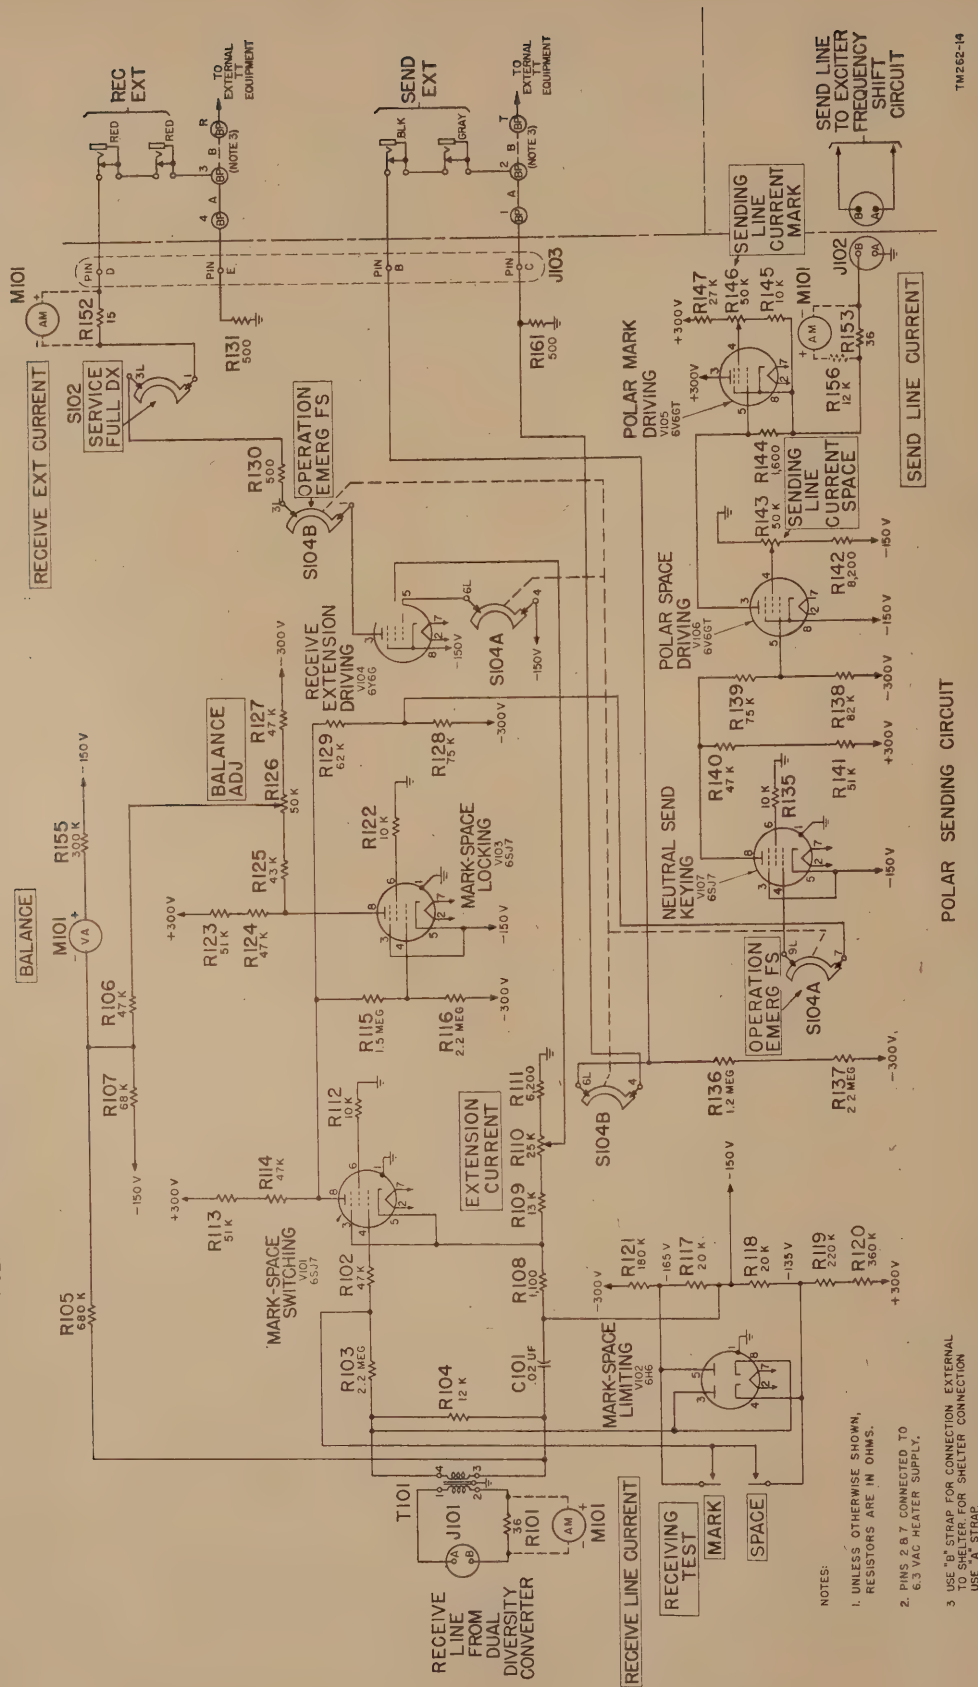

Figure 20. Control unit arranged for emergency FS operation.
### 34. Emergency FS Operation (fig. 20)
b. When the OPERATION switch on the control unit is turned to the EMERG FS position, the circuits are so arranged that the transmitter may be keyed from the receiving position. Figure 20 is a schematic diagram of the circuits arranged for emergency FS operation. The EMERG FS position of OPERATION switch S104 connects the control grid of receive extension driving tube V104 to the —150-volt supply which also is connected to the cathode. This connection holds V104 in a conducting state, preventing the receiving TT from running open (spacing continuously). In addition, this position of the OPERATION